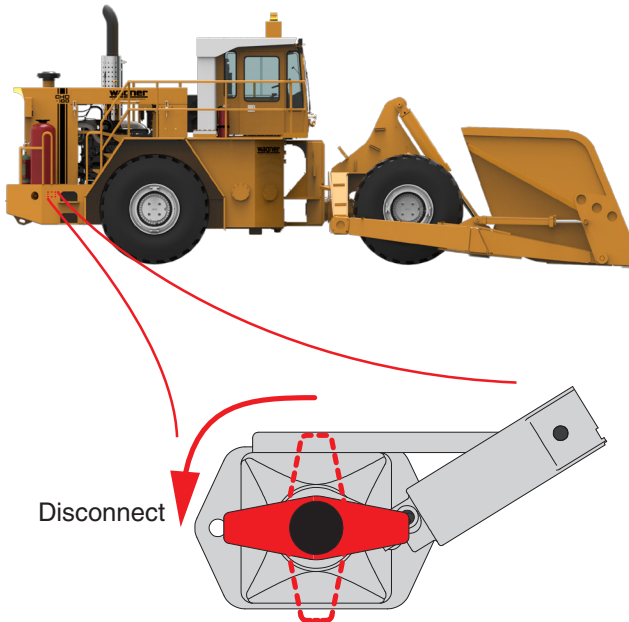

Figure 5-1-2 Battery Disconnect Switch Location
Always set the Battery Disconnect switch to "OFF" before performing any welding. The Battery Disconnect Switch is located on the right side of the machine, accessed inside the second step (see Figure 5-1-2). Turn the switch counterclockwise to disconnect the batteries.
- Set Battery Disconnect Switch to OFF (see Figure 5-1-2).